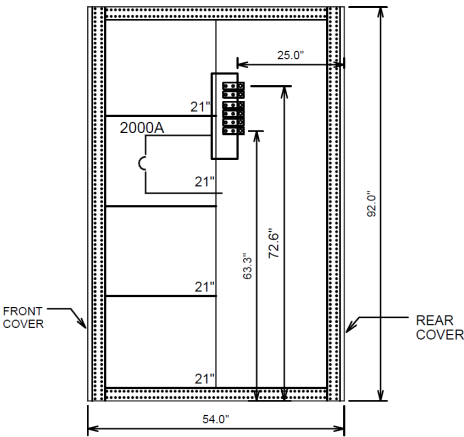
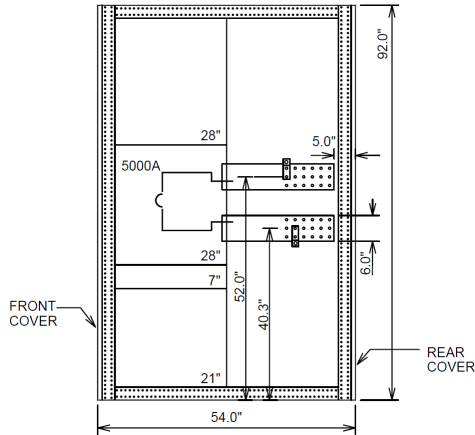

Figure 5.13: Main-Tie breaker cable termination sections: 800 A – 2000 A breaker, mid or lower bus
Figure 5.19: Main-Tie breaker cable termination sections:
Figure 5.13 shows a 2000 A main breaker cable feed with cables to the upper primary disconnects and main bus to the lower primary disconnects. The main bus is in the mid or lower bus position.
Figure 5.19 shows a 5000 - 6000 A main breaker cable feed with cables to the upper or lower primary disconnect. Cables to the upper primary disconnect, main bus in the lower bus position. Cables to the lower primary disconnect, main bus in the upper bus position. Minimum depth is 74" .
**Table 5.2: Main cable feed and bus tap-off (refer to Figure 5.13 through Figure 5.19)**